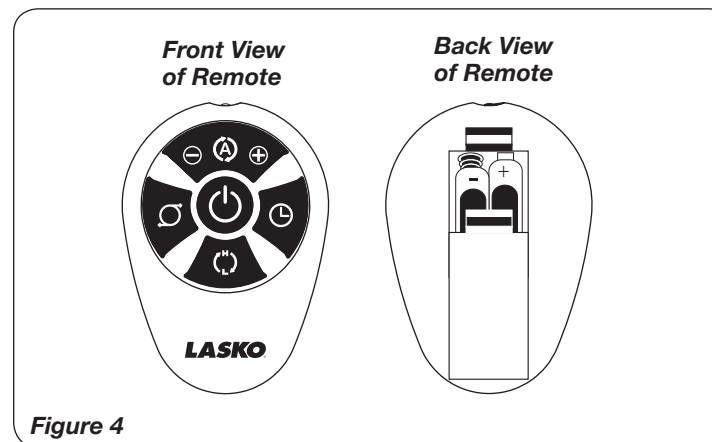

Figure 4
- Align the **Base Assembly** with the **Column Support Assembly**. Make certain to align the **Locating Notch** on the **Column Support Assembly** with the **Key** on the **Base Assembly** (Figure 4). Attach the **Base Assembly** to the **Column Support Assembly** with (4) M5 X 13 mm Screws. Gently pull any excess slack of the **Power Supply Cord** and place it in the **Cord Channel** of the **Base Assembly**. (Figure 5)
REMOTE CONTROL (Figure 4)
1. Install the two "AAA" batteries supplied. (Figure 4)